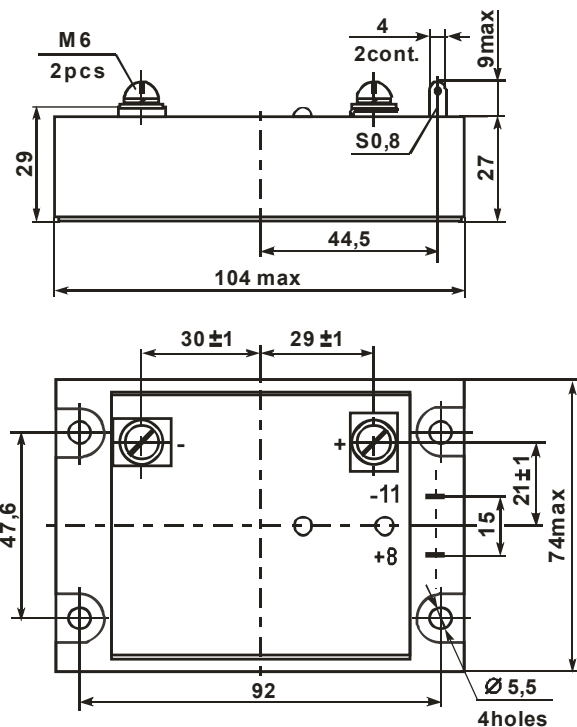

Figure 6.6 – Overall drawing of modules MT14PT, MT15PT with maximum current up to 160 A
**MT14A(B)-PP6** – a module based on MOSFET-transistor shunted with a reverse fast-recovery diode in a housing corresponding to Fig.6.6.
**MT15DA(B)-PP6** – a module based on IGBT-transistor shunted with a reverse fast-recovery diode in a housing corresp. to Fig.6.6.